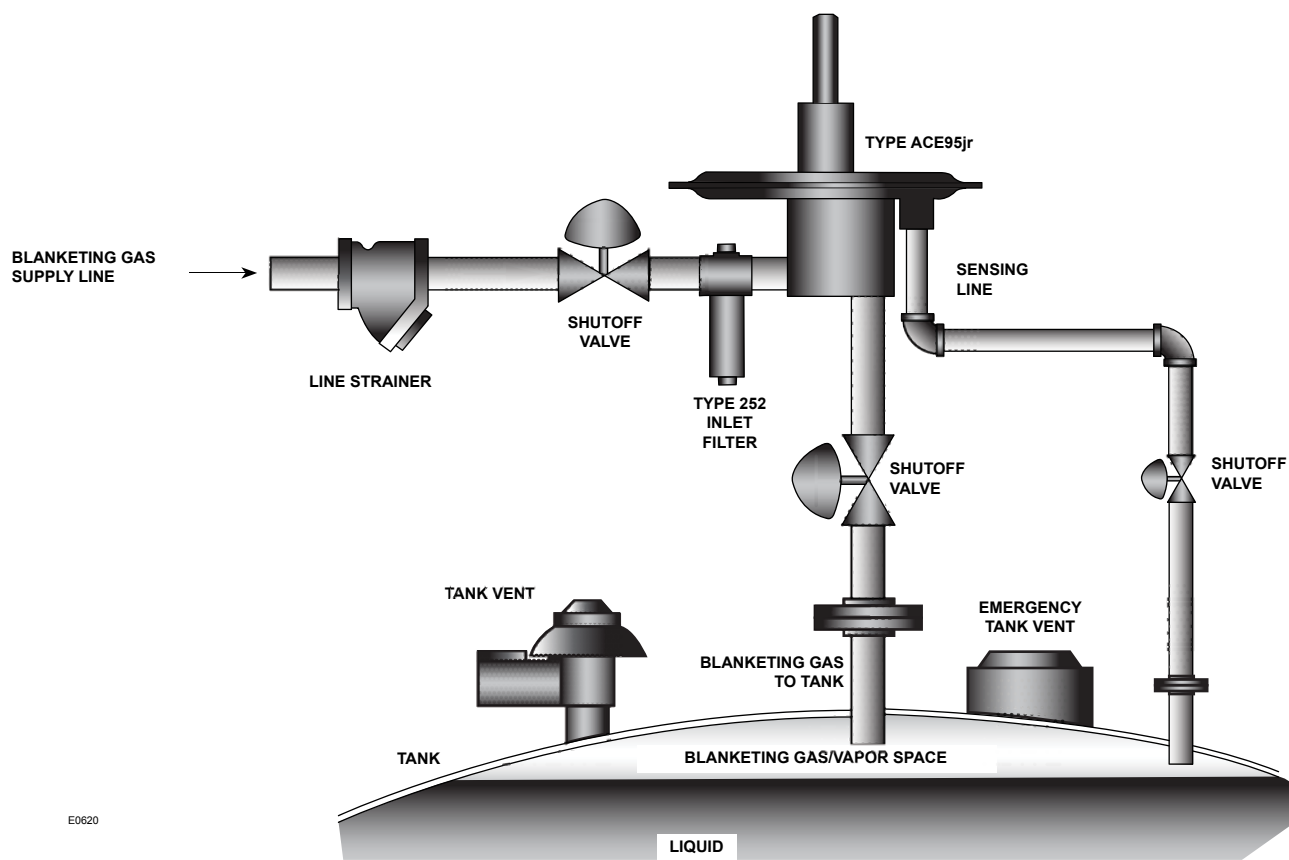

Figure 3. Type ACE95jr Tank Blanketing Valve Installation
4. The valve must be mounted so the actuator case is horizontal, as shown in Figure 3. The valve should be mounted above the tank. Three connections are required: a) blanketing gas supply to valve, b) valve outlet to tank and c) sensing line to tank.
1. Open shutoff valves between the blanketing valve and the tank (both sensing and outlet). See Figure 3.